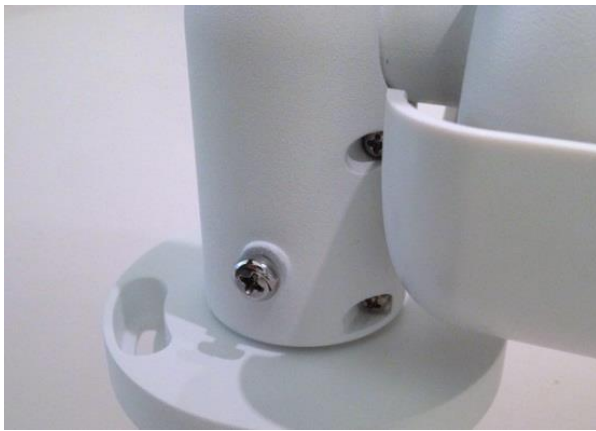

Figure 1
5. Use a cross screwdriver to loosen the screw indicated in Figure 1, but do not detach it. Rotate the camera and point the camera to a desired direction. Then, tighten the screw. The camera joint will be fixed.